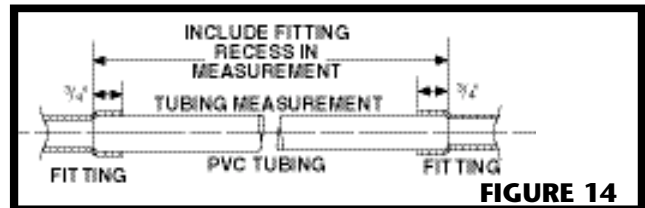

FIGURE 14
7. Refer to Figure 14. Measure length of tubing needed to connect inlet to trunk line. Allow approximately 3/4" of tubing for inserting into fittings.
2. Refer to Figure 14. For some drywall or panel construction, the plaster frame will extend beyond the finished wall. In this case, remove plaster frame from mounting bracket by removing mounting screws.